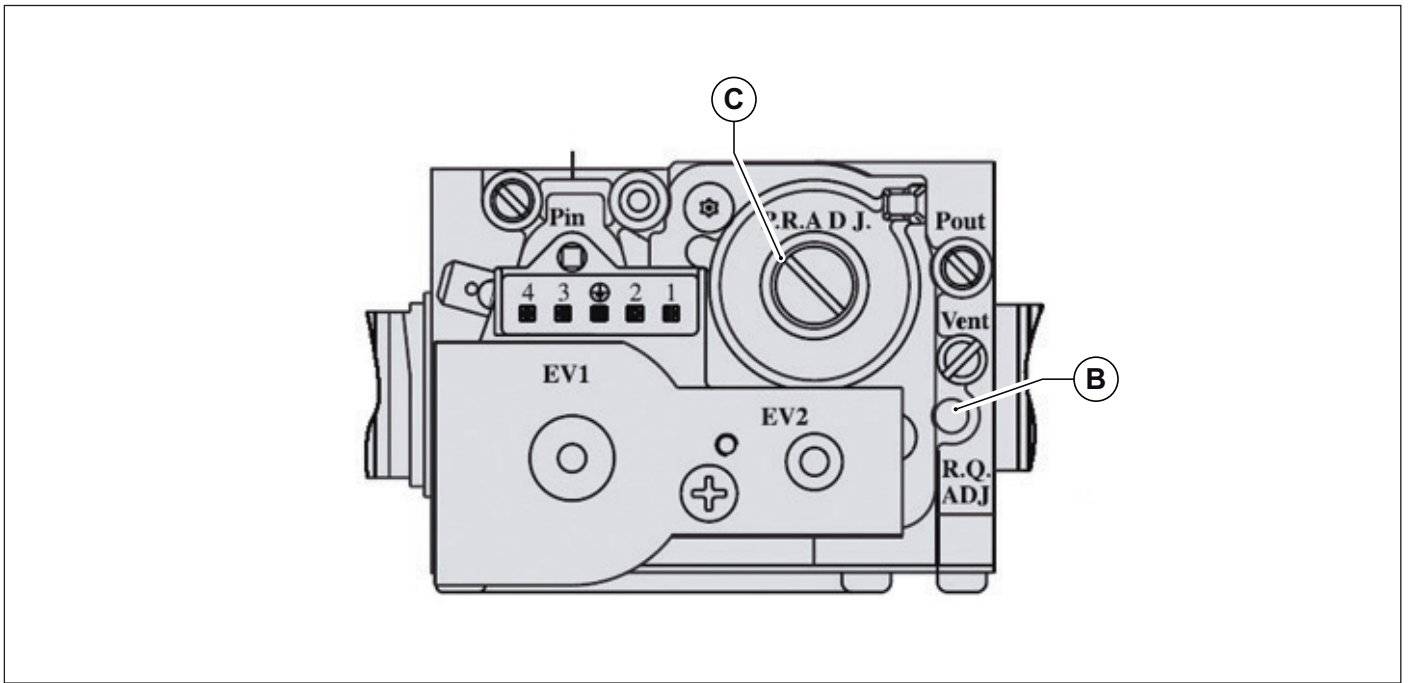

Fig. 40 Adjusting CO2 value
- Set flue gas CO₂ content by turning the ratio adjuster **B** (see Fig. 40 Adjusting CO₂ value) and ensure that reading falls within the limits of Tab. 29 Flue CO₂ content. Let boiler flue cleaning function on and continue with the next point "Minimum heating output adjustment".
- Set flue gas CO₂ content by turning the offset control **C** (see Fig. 40 Adjusting CO₂ value) and ensure that reading falls within the limits of Tab. 29 Flue CO₂ content.